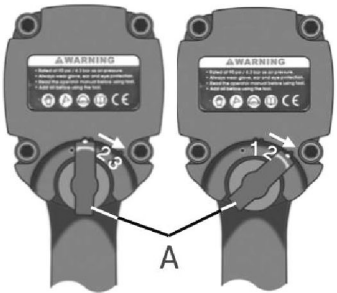

Fig. 1
- 1. Select your desired operation speed from the 3 available options using the speed control dial (A) (Fig. 1).